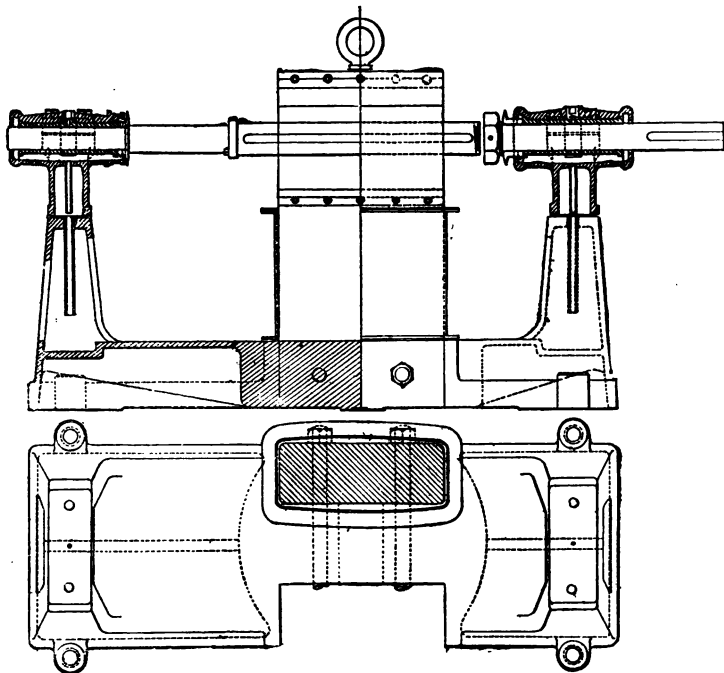

Fig. 10.—Kapp's Dynamo, Longitudinal Section.
*Kapp's Dynamo.*—Fig. 10 is a longitudinal section and plan of a Kapp machine of the over-type, and having a drum armature 11 inches in diameter by 16 inches in length. The foundation or bed-plate and the bearing standards form one casting. The field-magnet cores and pole pieces are of wrought iron, bolted to the foundation as shown. One of the pole pieces is shown in section in the plan, the gap for the other